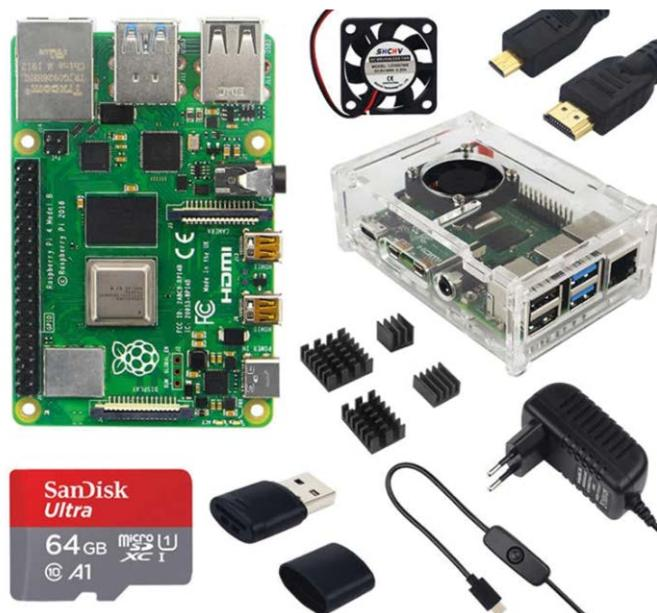

Figure 1.17: Raspberry Pi as a kit.
- Purchase Raspberry Pi 4 as a kit (see Figure 1.17) including the processor board, power supply, micro SD card with the operating system already loaded, fan, cables, etc.